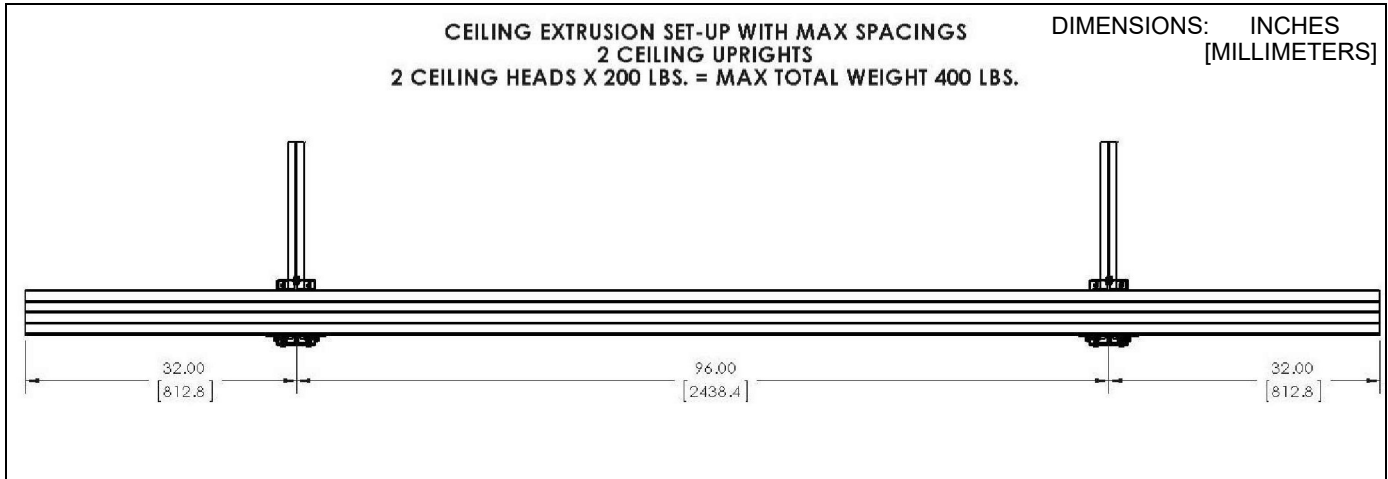
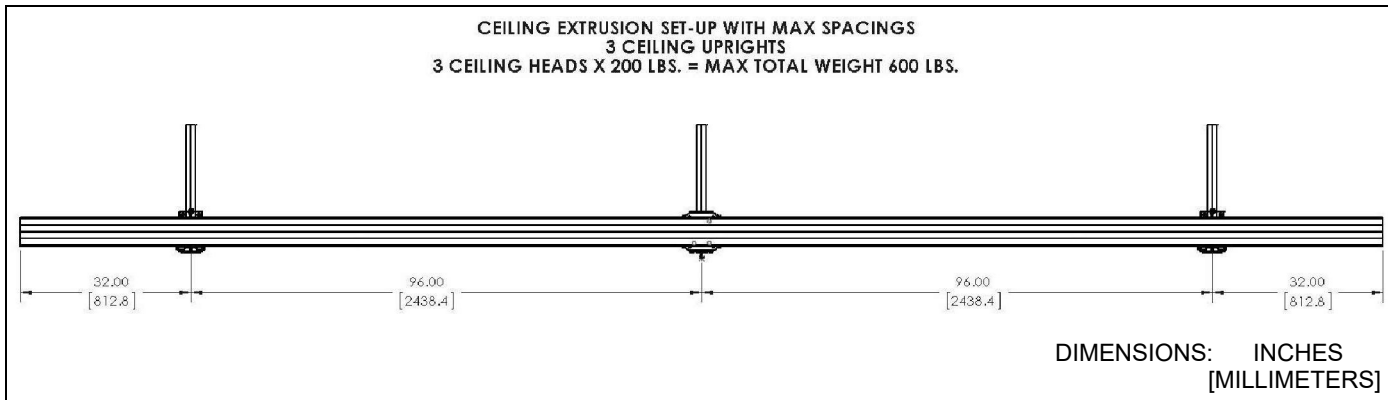
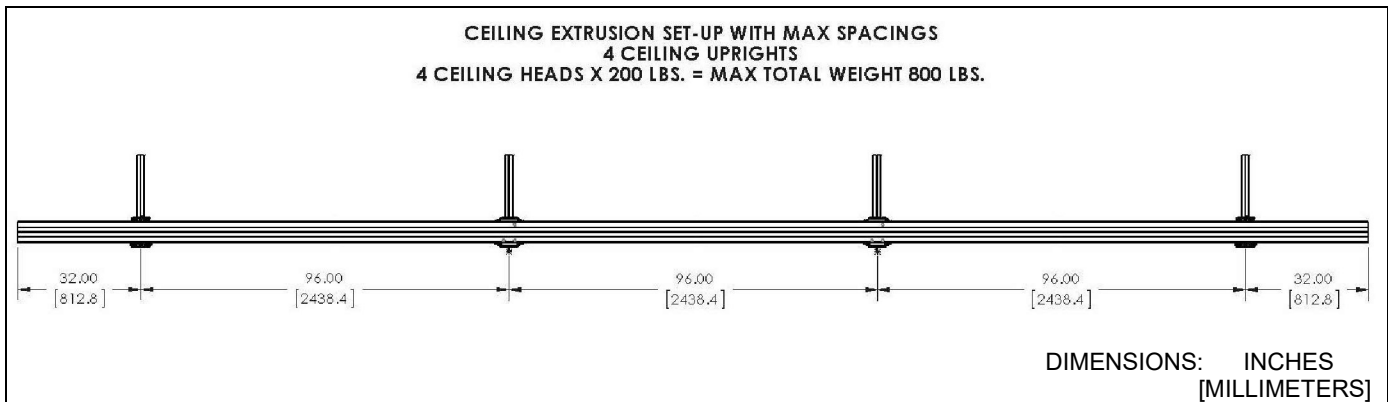

Figure 13
Figure 14
Figure 15
**IMPORTANT !** : Weight capacity is dependent upon number of ceiling heads, and screen interface brackets. Weight capacity is determined by the LOWEST weight capacity within the modular configuration. (See Figure 13), (See Figure 14), and (See Figure 15).